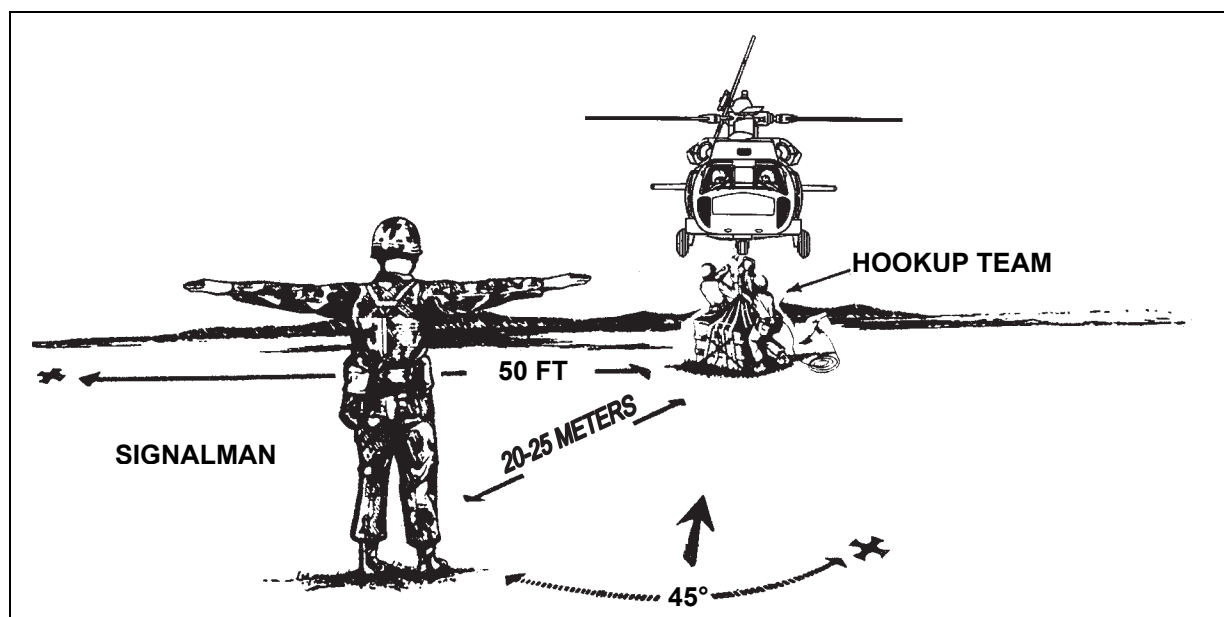

Figure 5-6. Relationship of Aircraft, Signalman, and Hookup Team
- The signals must be precisely given to prevent any misunderstandings between the signalman and the pilot. While the helicopter is hovering, the signalman is responsible for the safety of the hookup team. The hookup team must alertly watch the helicopter during the complete operation (figure 5-6).